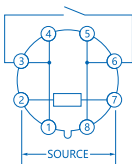

Figure 7 Wiring Diagram of KG10M
3.2.1.2 The wiring method of KG10M is shown in Figure 7, and the base CZS08C can be used for the guide rail type installation.